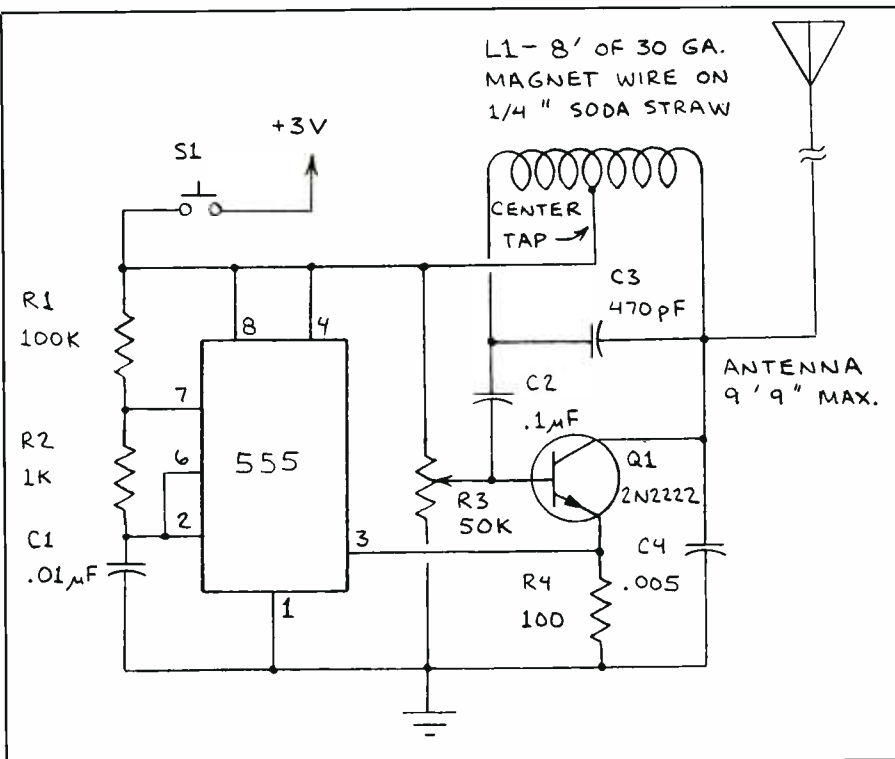

Fig. 1. A low-power broadcast-band tone transmitter.
• *Broadcast-Band Tone Transmitter.* The circuit in Fig. 1 transmits a clear audio tone to an AM radio tuned to around 700 kHz. It can send code signals or tone-encoded data (e.g., light level or temperature). It can be used as a tracking transmitter. And it can be concealed and used in a "fox hunt," the object of which is to find the hidden transmitter with the help of a directional receiver.
Referring to Fig. 1, *Q1* is connected as an r-f oscillator that generates a clean sine wave having a frequency determined by the values of *C3* and *L1*. The r-f signal is both amplitude and frequency modulated by an audio-frequency signal supplied by a 555 oscillator. The frequency of the modulating signal is determined by the values of *R1* and *C1*.
• **Broadcast-Band Voice Transmitter.** The transmitter in Fig. 1 can be voice